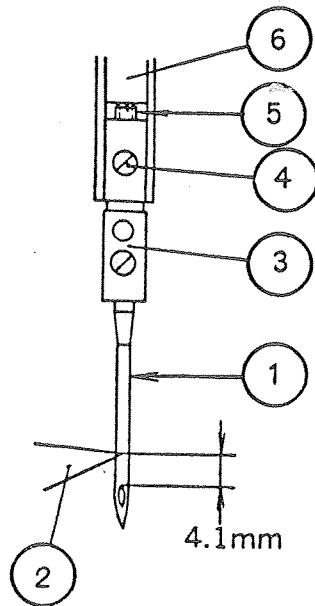

FIG. 56A
SETTING THE HEIGHT OF THE NEEDLE CHUCKS (Fig. 56A, 56B)
- b) Loosen set screws of both rotating hooks so that they will turn freely in their gears. Turn hooks until their hook points (2) are at the center lines of needles (1) - Fig. 56A. In this setting the distance between both hook points (2) and the upper end of both needles' eyes should be 4.1 mm (0.161").
- c) If adjustment should be necessary, turn regulating screw (5) to obtain required distance making sure that the head of screw (5) contacts the surface of needle bar plug (6).